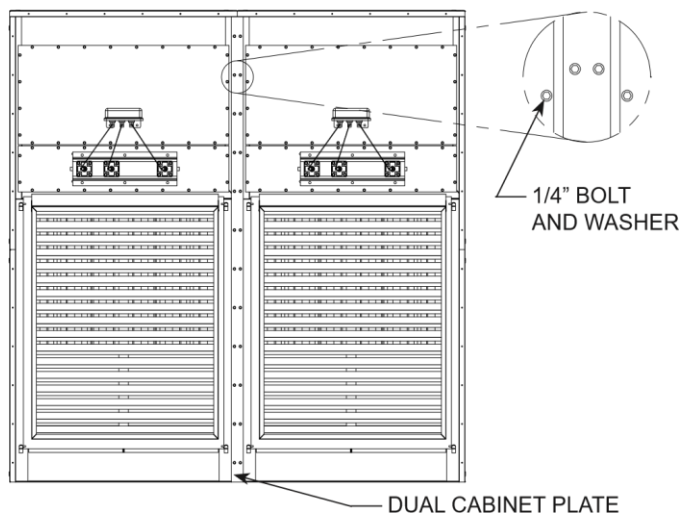

FIG. 2
8. Connect units using Dual Cabinet Plate and provided hardware (See FIG. 2). NOTE: To prevent vibration noises in multi-cabinet units, silicon can be applied between units.